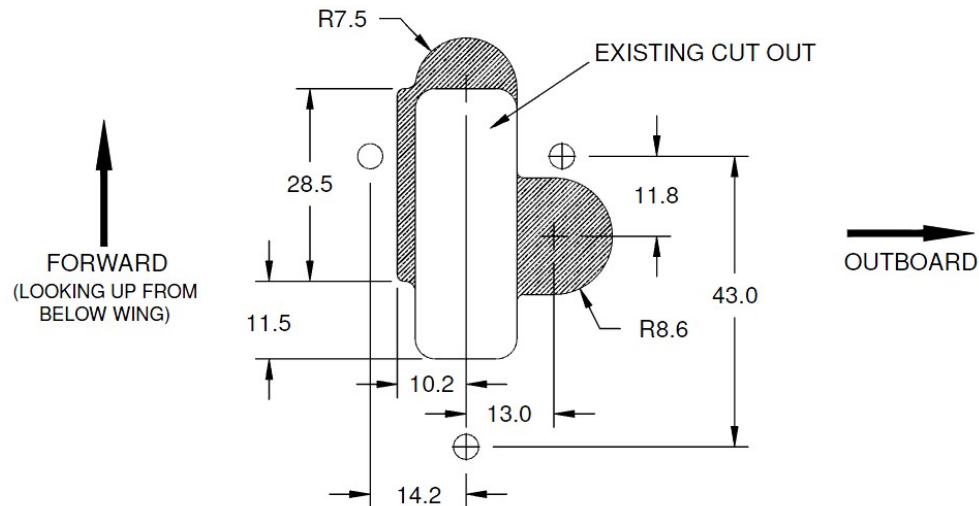

Figure 34: Modification to Pitot Probe Opening in Wing
- 13.1.4** Modify the existing Pitot Probe Opening by removing the shaded area according to Figure 34. See Appendix A for a scaled template.